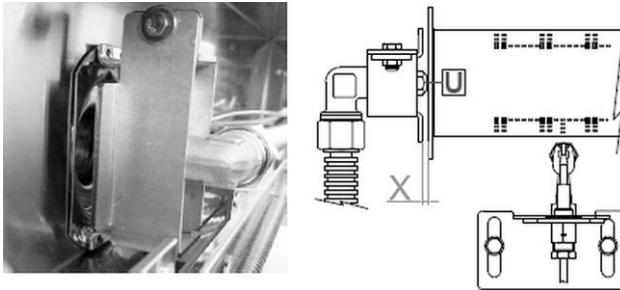

Fig. 23
The distance provided for primary air adjustment is shown in Figure 23 and Table 2 in section ('**Technical specifications**' / '**Nozzles and settings**').
1. Unscrew the nozzle 'U'(Fig. 23).